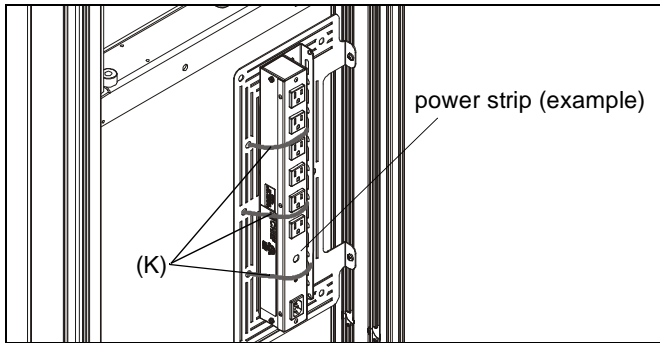

Figure 13
**WARNING:** Exceeding the weight capacity can result in serious personal injury or damage to equipment! It is the installer's responsibility to make sure the combined weight of all accessories and components installed to the component bracket (C) does not exceed 10 lbs (4.54 kg). Exceeding the weight capacity may result in damage to the equipment or components!
5. Install components to component bracket as desired using cable ties (K), cable clips (T) or screws. (See Figure 13)